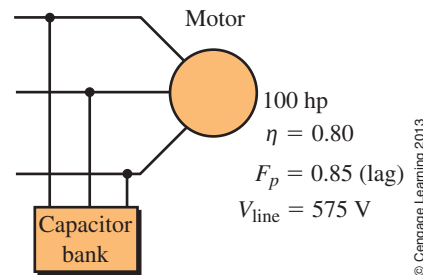

FIGURE 24–54
44. A motor whose efficiency is 80% delivers 100 hp to a load. A bank of power factor capacitors is connected as in Figure 24–54. The capacitor bank (which is balanced) is rated $Q_C = 45$ kVAR (total). Reduce the problem to its single-phase equivalent, then compute the resultant power factor of the system.
45. The capacitors of Figure 24–54 are connected in Y and each has the value $C = 120 \mu\text{F}$. Compute the resultant power factor. Frequency is 60 Hz.